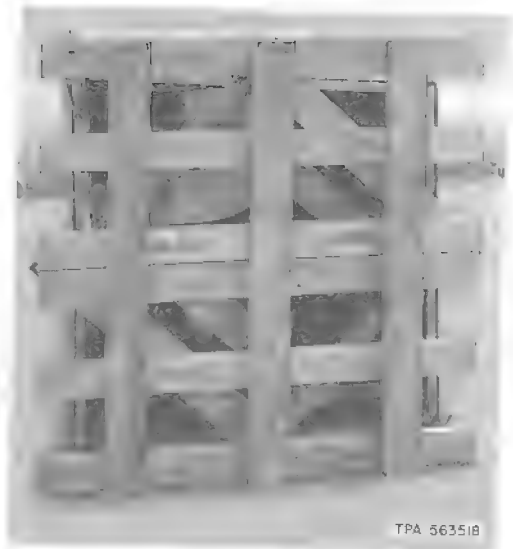
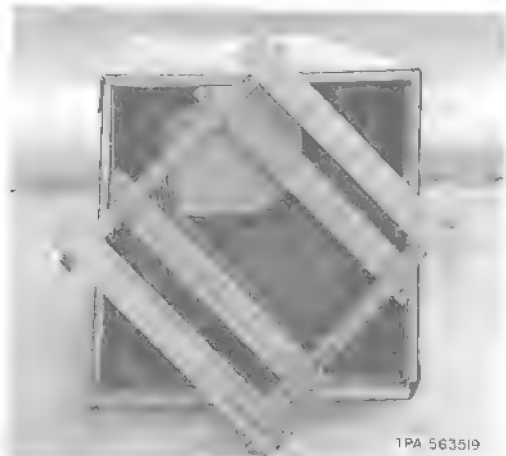

Fig. 17—Kiosk in Horizontal Position
Fig. 18—Bottom Portion of Skid Removed
- (2) Before removing any packing material, lay kiosk down with marking "FRONT OF KIOSK" facing up (Fig. 17).
- (3) The bottom skid is in two parts. Remove hardware (Fig. 17) and detach bottom part of skid (Fig. 18).